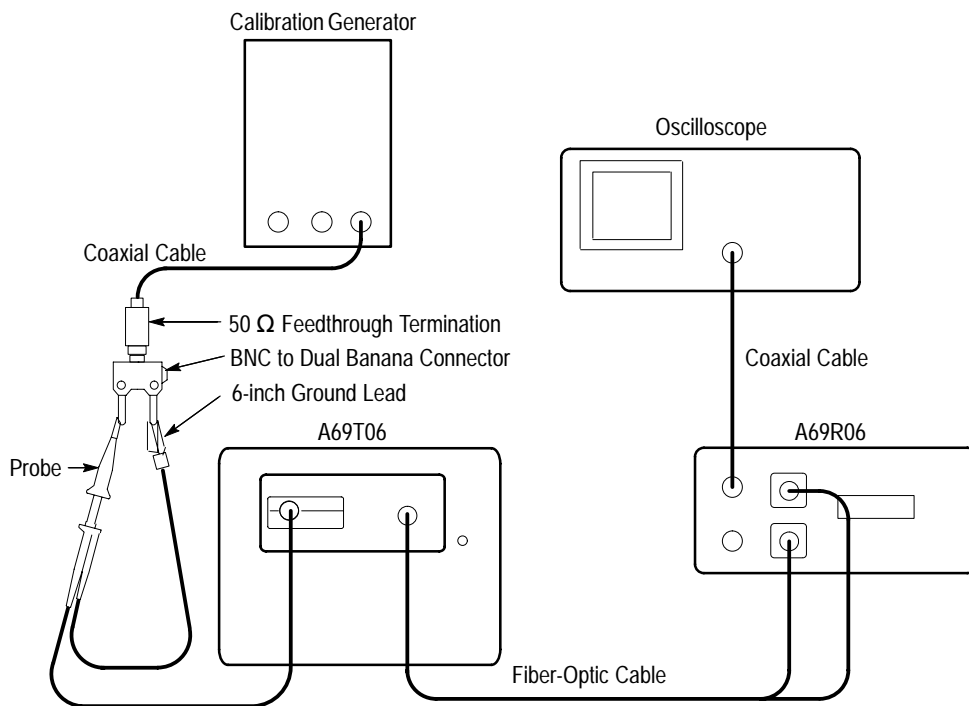

Figure 14: Probe Check Setup
2. Connect a coaxial cable to the **HIGH AMPL** (high amplitude) output of a calibration generator. Attach a BNC to dual banana connector to the other end of the coaxial cable. Connect the A6906S probe to the BNC to dual banana connector by attaching the probe tip to the signal side of the BNC to dual banana connector and attaching the reference common lead to the ground side. Figure 14 illustrates these connections.